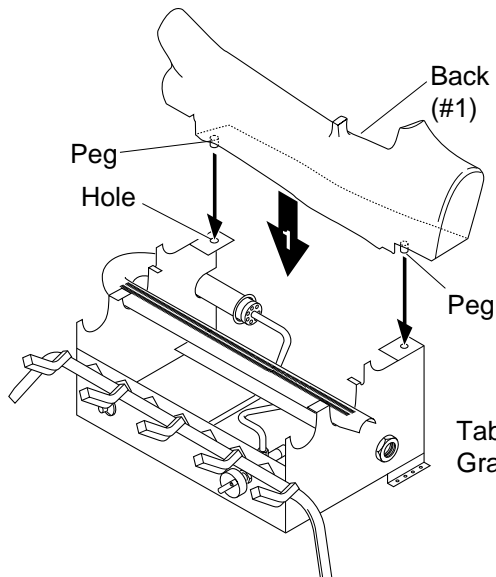

Figure 17 - Installing Back Log
1. Locate pegs on the bottom of back log (#1). Slide these pegs into the holes in the grate base behind the burner (see Figure 17).